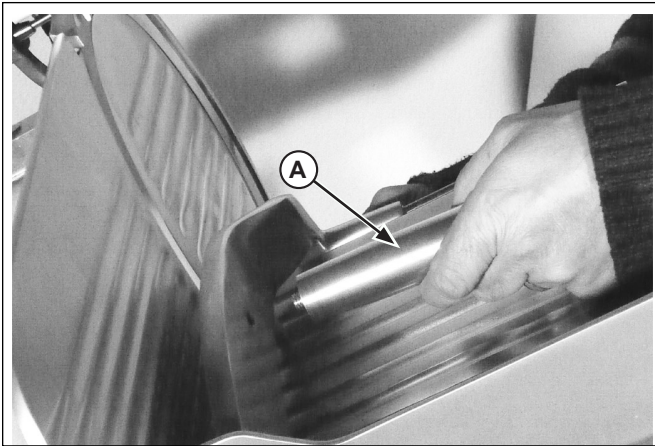

Figure 5. Product Grip Handle
7. Unscrew and remove the product grip handle and clean the product grip (A). Figure 5.
14. Rotate the index control knob to zero (0) position and wipe the gauge plate starting at the knife and moving slowly outwards.
15. Install the carriage tray and tighten the carriage tray knob. See Figure 5 and 6.